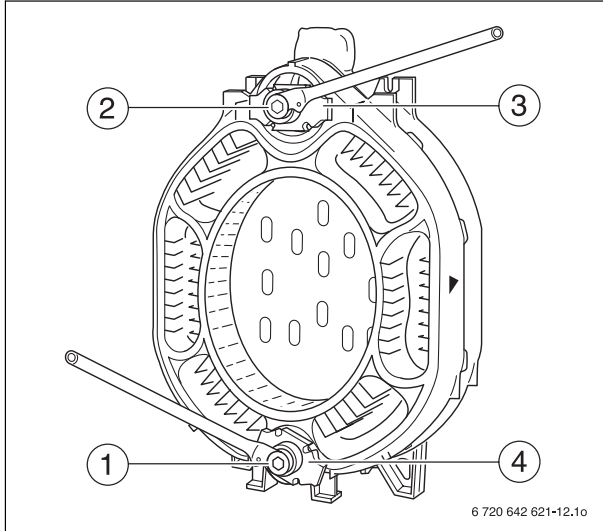

Fig. 17 Using the boiler assembly tool
- ▶ Only boiler assembly tools size 2.3 may be used (Fig. 4, page 15 and Fig. 17, [1 and 2]).
- ▶ Push the compression units (Fig. 17, [3 and 4]) onto the tie rods (Fig. 4, [4], page 15).